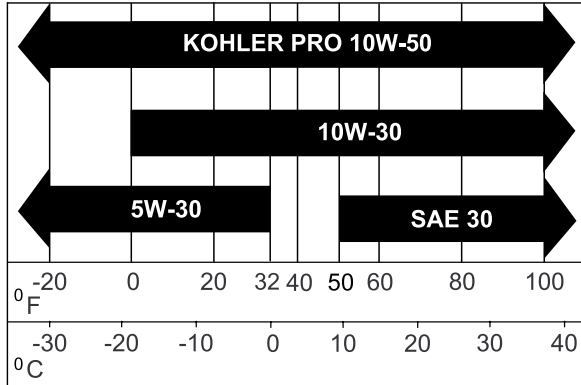

Figure 11
**Viscosity:** select the oil viscosity according to ambient temperature; refer to Figure 11.